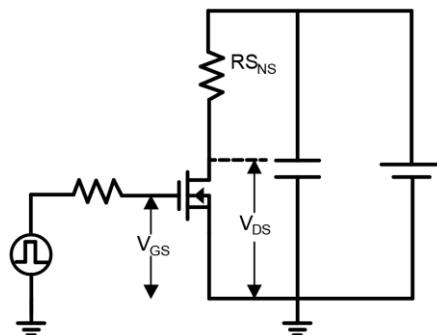

Figure 17. Dynamic  $R_{DS(on)}$  Test Circuit
C. Dynamic on-resistance; see Figure 17 and 18 for test circuit and configurations